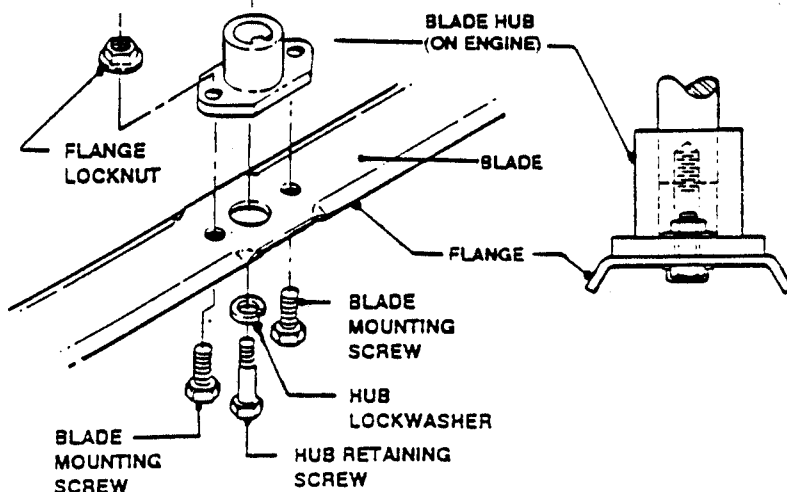

FIGURE 14
- Reinstall sharpened blade and components as shown in Figure 14.